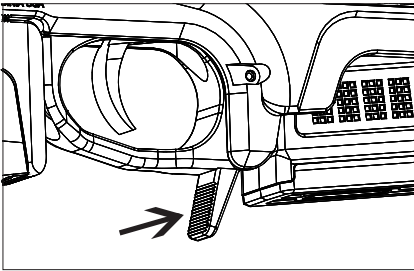

Figure 29 - Magazine Release Lever
4. Push the Paddle Lever Magazine Release forward to unlock the detachable box magazine from the rifle. (Fig 29)